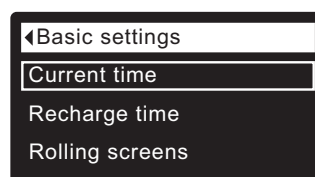

FIG. 31
3. Press the SELECT (O) button to display the Basic settings menu (See Figure 31).
7. Press the SELECT (O) button. The display will go back to the Basic settings menu (Figure 31).